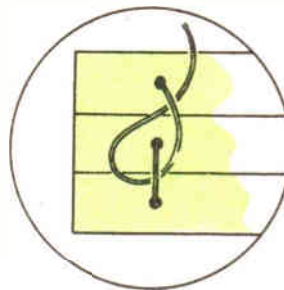

Fig. 5
Open the book section at its middle and hold it there with the left hand, then insert the needle through point (A). Bring it out through (B), drawing the thread so that about 3 ins. is left dangling at (A). Then pass over the tape and enter at (C), bring out at (D), then over the tape and enter at (E), and so on, finally coming out at (H). The thread should be kept firm, but not too tight. Fig. 5 illustrates this.
Now, add the third section and enter at (Q), proceeding as before. When you come out at (X), pass the needle under the thread joining (H) and (I), and then again under the loop so formed, and pull tight. This is the kettle stitch. See detail, Fig. 5. After this, enter the fourth section and proceed. Use the kettle stitch at each end henceforth. At the last, make two or three for security. If thread runs out before work is complete, join new thread so that the join is within the fold of the section.